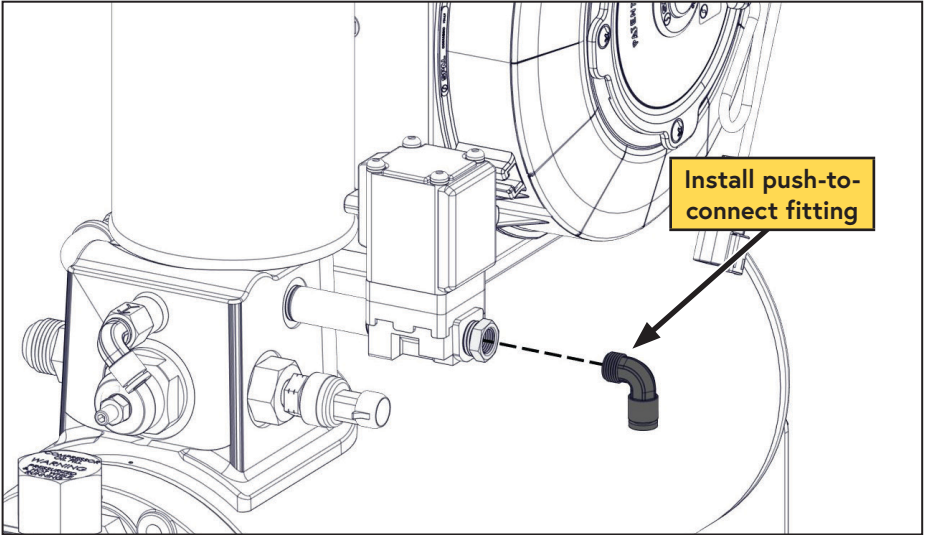

Figure 34 — Install push-to-connect fitting
- Apply Loctite 567 (thread sealing) compound to the 1/4 in push-to-connect fitting and install it into the fitting on the blowdown solenoid (Figure 34).